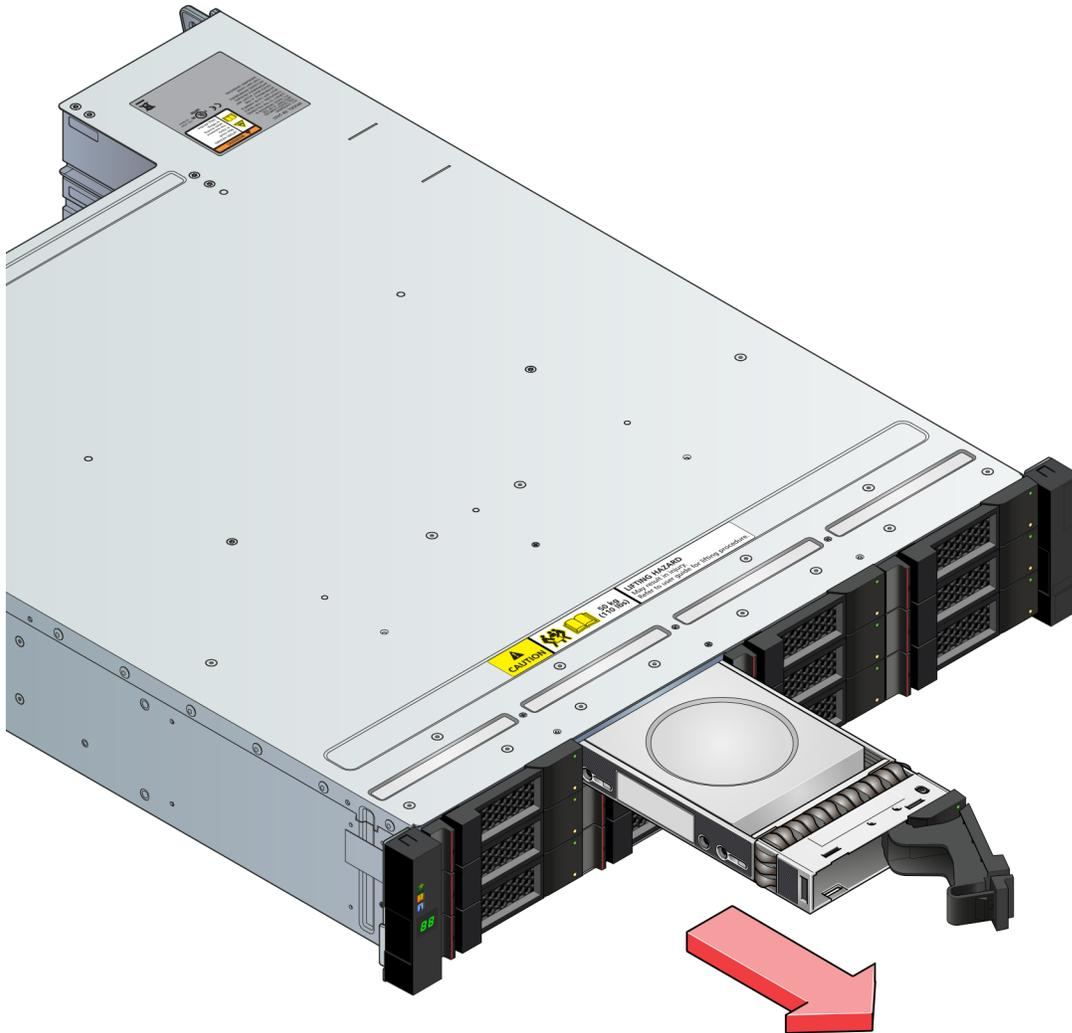

Figure 78. Removing a Drive Carrier Module (2)
2. Gently remove the drive carrier module approximately 1 inch (25mm), then wait 30 seconds (see Figure 78 “Removing a Drive Carrier Module \(2\)” on page 79).